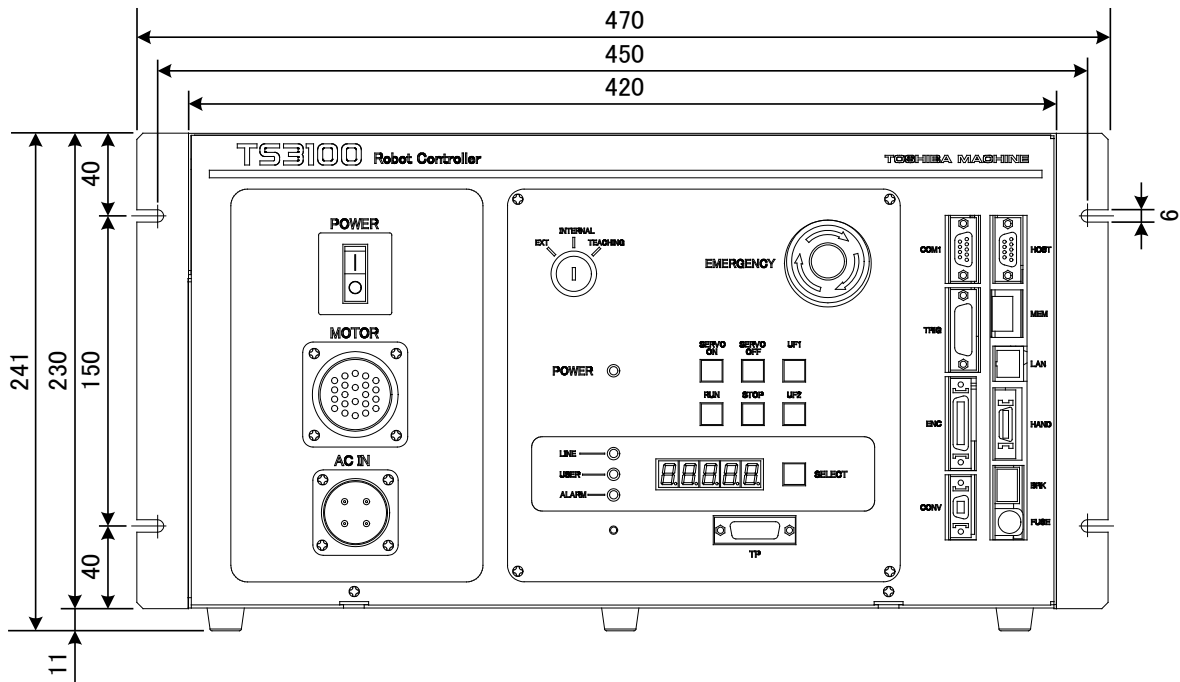

Fig. 3.6 Screw hole dimensions for securing controller
When mounting the robot controller in a rack, mount the side brackets using the screw holes provided on both ends of the front panel, and secure the controller to the rack. The side brackets ① in Fig. 3.6 are optional.